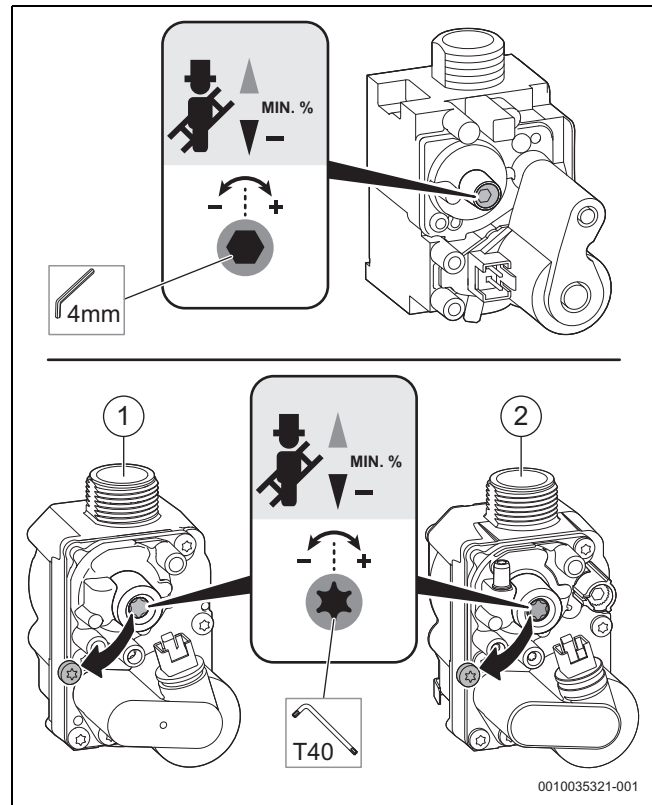

Fig. 84 Setting the CO₂ content (above: SIT valve, below: Honeywell valves)
- ▶ Remove the seal from the adjusting screw of the gas valve (only gas valve is shown in the below Figure 84) and set the CO₂ content for minimum rated output.